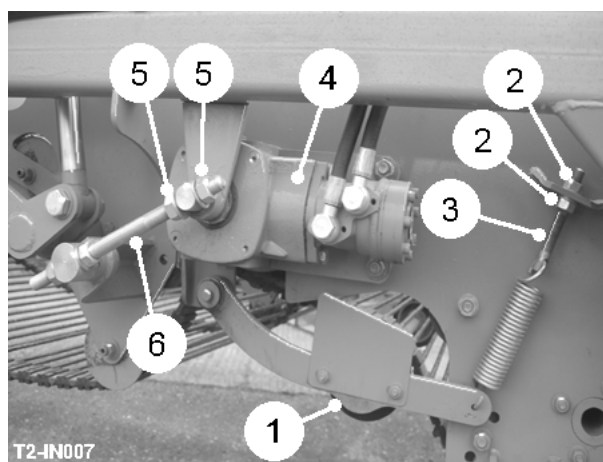

Fig 8
The standard specification machine is fitted with a 1630mm wide, 36mm pitch digger web. A 1500 mm digger web is available as an option. Also, should an alternative pitch web be required to suit particular crop and soil conditions, this will be a special requirement and will need to be discussed with Standen Engineering Limited. The spring-loaded tension rollers (item 1, fig 8) maintain the drive on the return side of the web. To tension the web, loosen the locknuts (item 2, fig 8) and reposition the spring adjuster (item 3, fig 8). Ensure both sides are adjusted equally.
The digger web is driven by the motor gearbox unit (Item 4, fig 8). The  button starts/stops the digger web and the speed is set on the service terminal.
The drop height from the digger web to the sieving web can be adjusted using the 'Web Split' button on the slave box. The gap between the two webs can be manually set according to the crop size, and the separation required. The gap is adjusted by releasing the locknuts (item 5, fig 8) and moving the adjuster (item 6, fig 8) until the required gap is obtained. Ensure both sides are adjusted evenly.